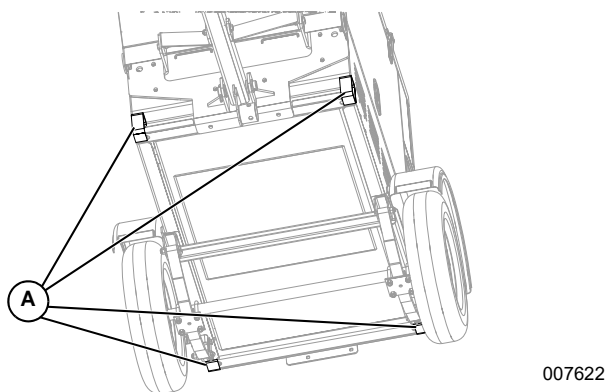

Figure 3-9. Tie-Down Points
See Figure 3-9. Use the tie-down points (A) as shown.